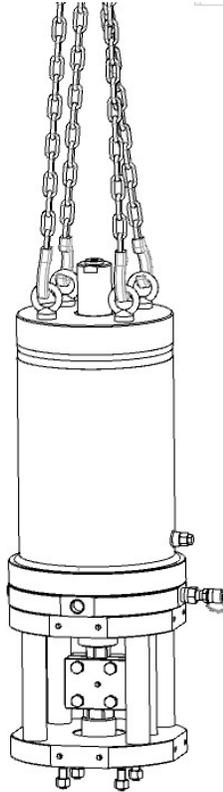

Fig. 2 – Lifting points for SC/VHS actuator series
Warning: Lift the actuator as shown in Fig.2.
- Conditions in which the machinery meets the requirement of stability during use, transportation, assembly, dismantling when out of service, testing or foreseeable breakdowns, are shown in Fig.2.